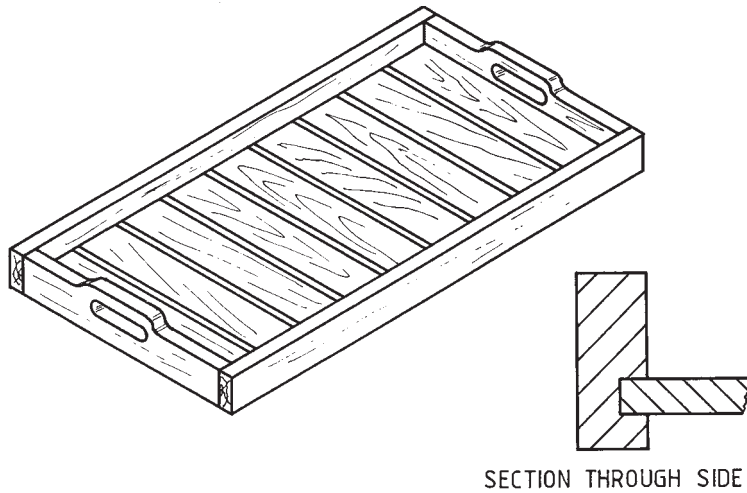

FIG. 4. TOP TRAY
- (b) A pictorial sketch of the top tray used in the entertainment trolley shown on page 2 is given below (Figure 4).